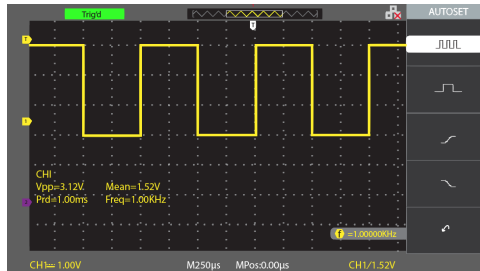
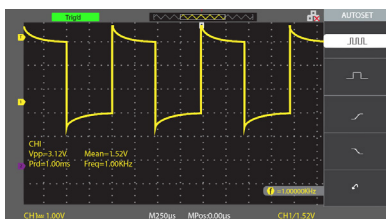

Figure 5. Test Signal on Probe Compensator
Figure 6. Over Compensated
Press the **Autoset Key** to automatically configure the oscilloscope to best display the input signals. You should see a waveform on the oscilloscope's display similar to Figure 5.
4. Your signal should be square as in Figure 5. See Figures 6 & 7 which show poorly compensated probes.